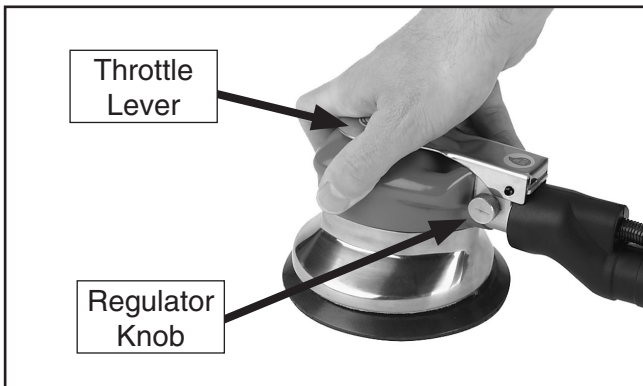

Figure 4. Sander controls.
2. Hold the sander and press the throttle lever (**Figure 4**) to operate the sander.
3. Turn the regulator knob (**Figure 4**) to adjust the speed of the sanding disc.